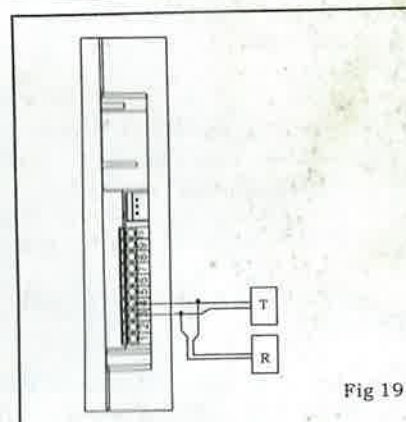

Fig 19
7.2 Connect the beam device into the Terminal 3 & 4 (see Fig 19), while **disconnecting** the existing connection in the Terminal.